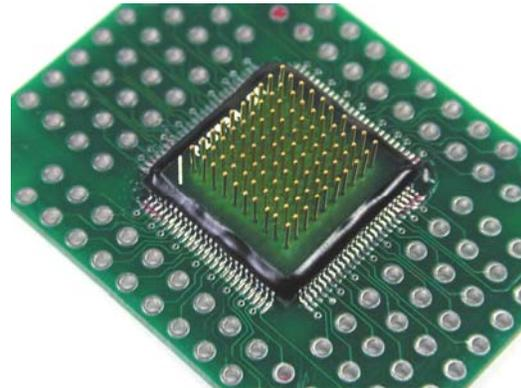

Figure 2: Align the Foot to PCB
1. Place a small amount of tack flux (water soluble or no-clean) on two opposing corner pads of the target PCB land pattern as shown in Figure 2.
2. Place the foot onto the land pattern noting orientation (pin 1 location) and align it to the pads with the aid of a microscope as shown in Figure 2. Handle the adapter by the top pin array or PCB corners (if pins are not present).